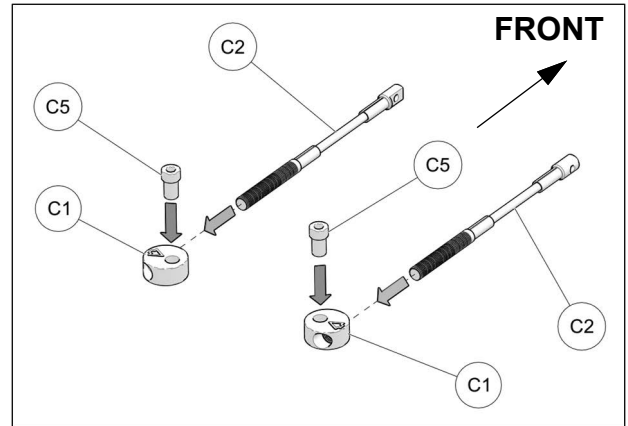

Fig. 27
16. Assemble steering limiter cables (C2), aluminum disks (C1) and step spacers (C5) together as shown on Fig. 27